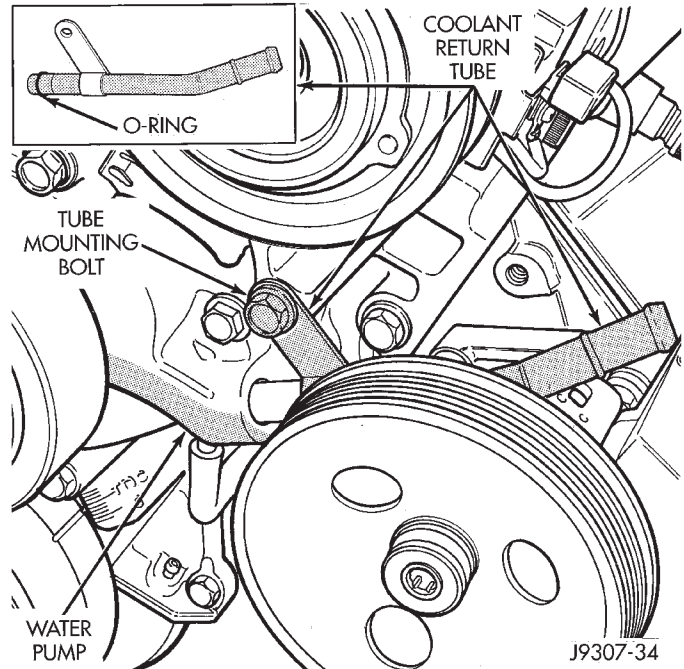
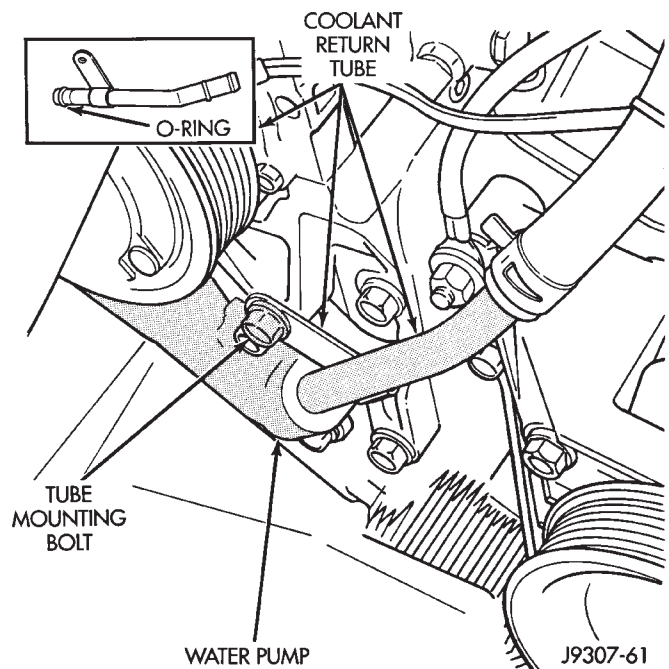
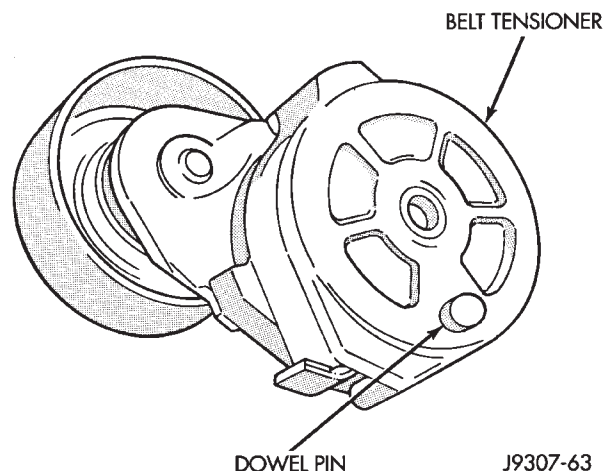
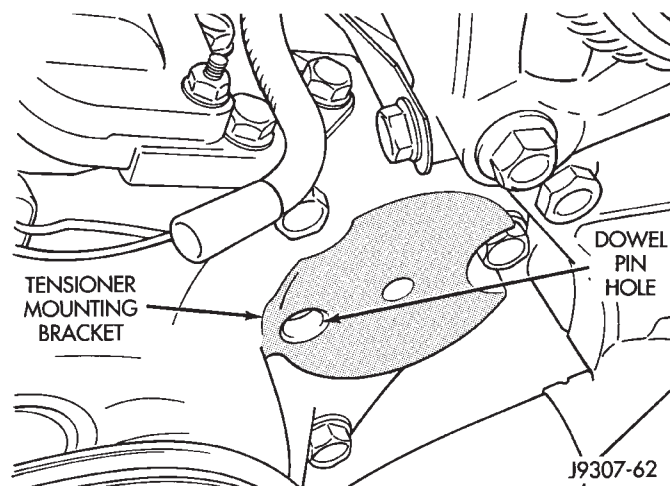

Fig. 62 Coolant Return Tube—3.9L V-6 or 5.2/5.9L V-8 LDC-Gas Engines
Fig. 63 Coolant Return Tube—5.9L HDC-Gas Engine
Fig. 66 Tensioner Dowel Pin—5.9L HDC-Gas Engine
Fig. 67 Tensioner Mounting Bracket Dowel Hole—5.9L HDC-Gas Engine
(11) Remove the engine oil dipstick tube mounting bolt at the side of the A/C-generator mounting bracket.
(12) Disconnect throttle body control cables. Refer to Accelerator Pedal and Throttle Cable in Group 14, Fuel System.
(13) Remove heater hose coolant return tube mounting bolt (Fig. 62) (Fig. 63) and remove tube from engine. Discard the old tube O-ring.
(5) Install a new O-ring to the heater hose coolant return tube (Fig. 62) (Fig. 63). Coat the new O-ring with antifreeze before installation.
(6) Install coolant return tube and its mounting bolt to engine (Fig. 62) (Fig. 63).
(7) Connect throttle body control cables.
(8) Install oil dipstick mounting bolt.
(10) **5.9L HDC-Gas:** Install automatic belt tensioner assembly to mounting bracket. A dowel pin is located on back of tensioner (Fig. 66). Align this to dowel hole (Fig. 67) in tensioner mounting bracket. Tighten bolt to 41 N·m (30 ft. lbs.) torque.